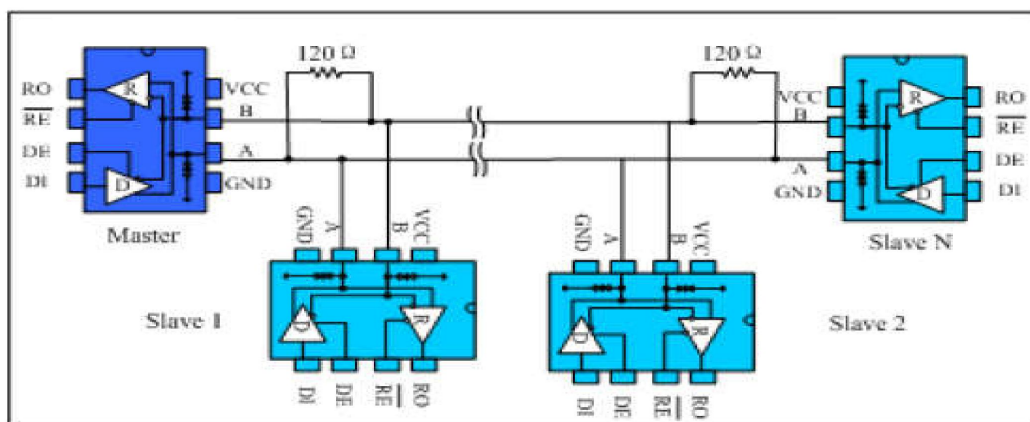

Fig. 9 Bus-type RS485 half-duplex communication network
4.1 Bus networking: The MAX1487CSA-TD RS485 transceiver is designed for bidirectional data communication on multi-point bus transmission lines. Figure 9 shows a typical network application circuit. These devices can also be used